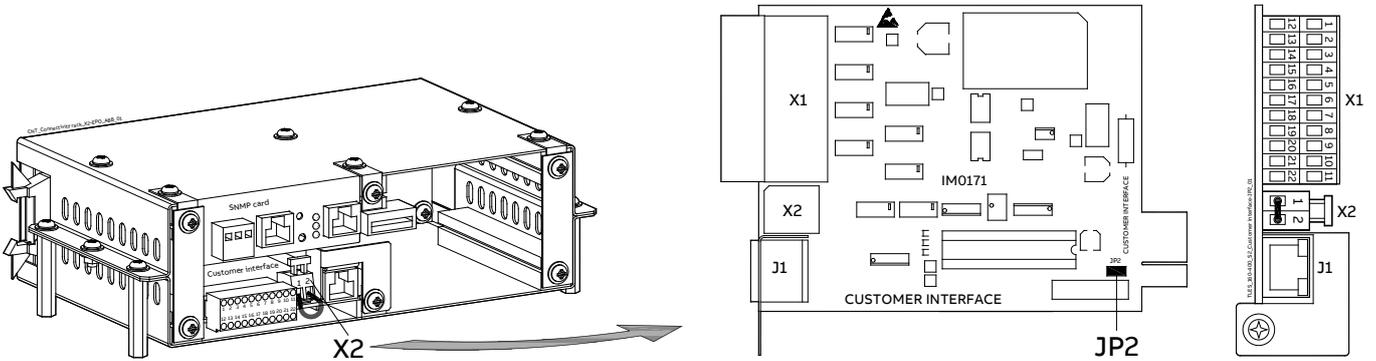

Fig. 4.11-3 X2 terminal block and Jumper JP2 on the Customer Interface Board
- Remove the cable short-circuiting terminals X2 / 1, 2 (see Fig. 4.11-3).
- Remove the Jumper JP2 (see Fig. 4.11-3).